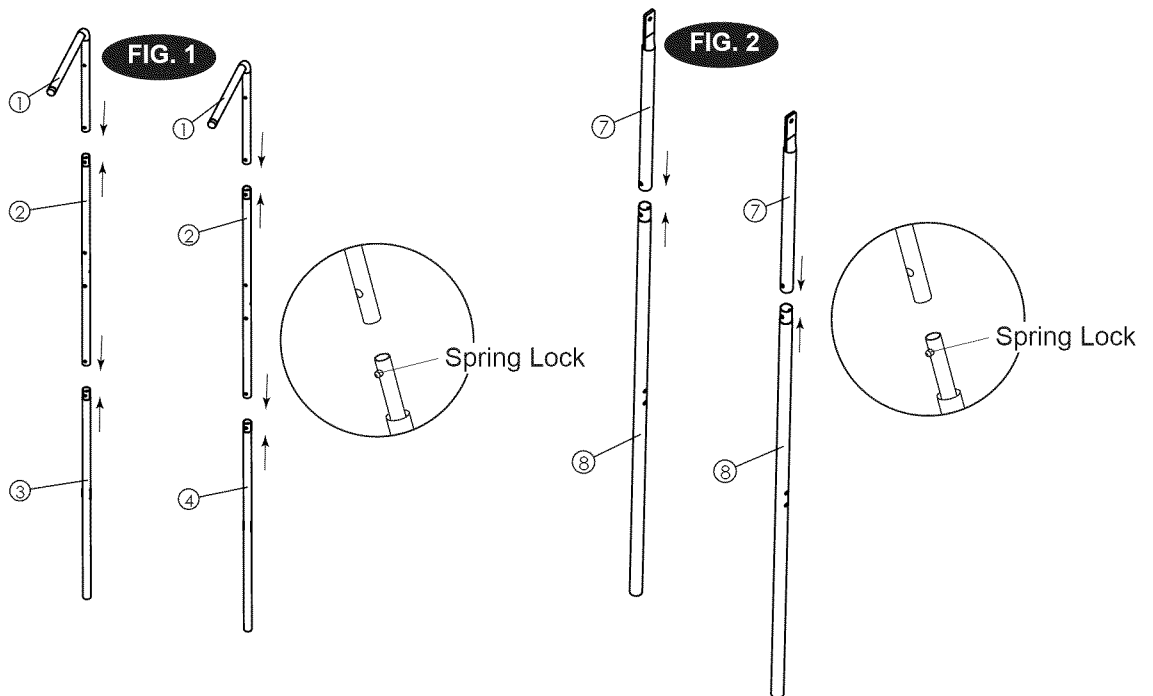

FIG. 3
5. Attach the Left and Right Horizontal Frame Braces (#5 and #6) together using spring lock as shown in FIG.3